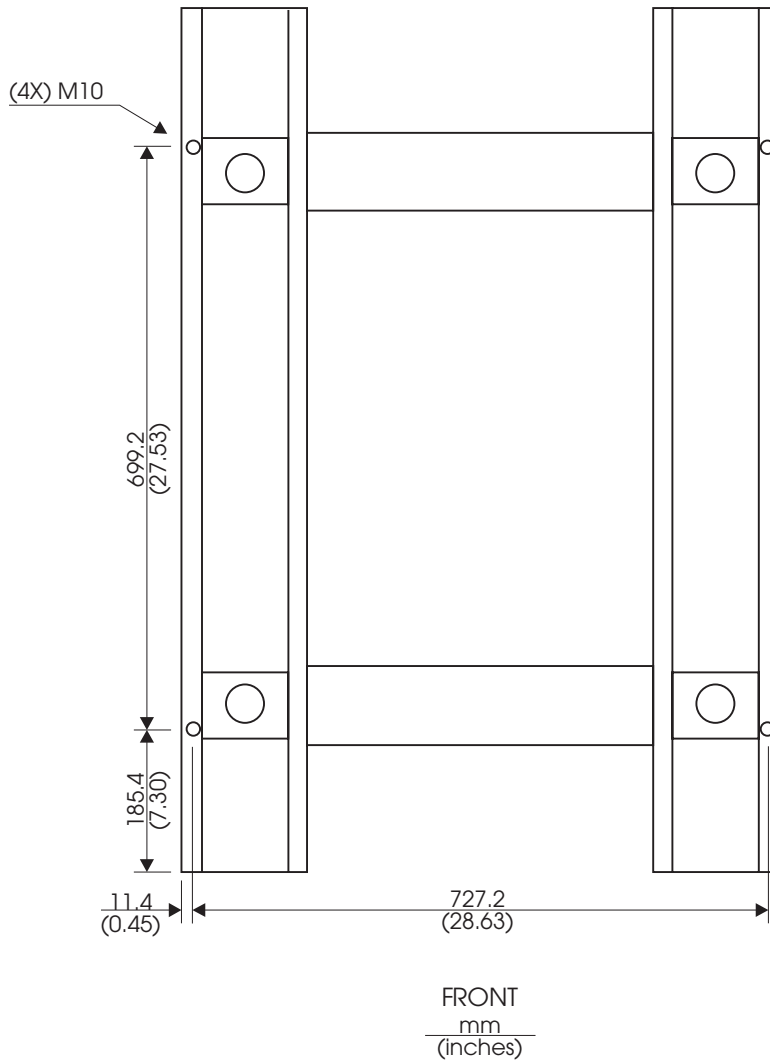

Figure 2-12. Specifications for Seismic Hardware on the 1.93 m Frame. Bottom view showing location of tapped holes for seismic tie-downs.
1.93 m Frame Seismic Tie-Downs: The 1.93 m RS/6000 SP frame has four M10 threaded holes on the bottom of the frame for attachment to customer-supplied hold-down devices. See Figure 2-12 on page 2-16 for hole locations.